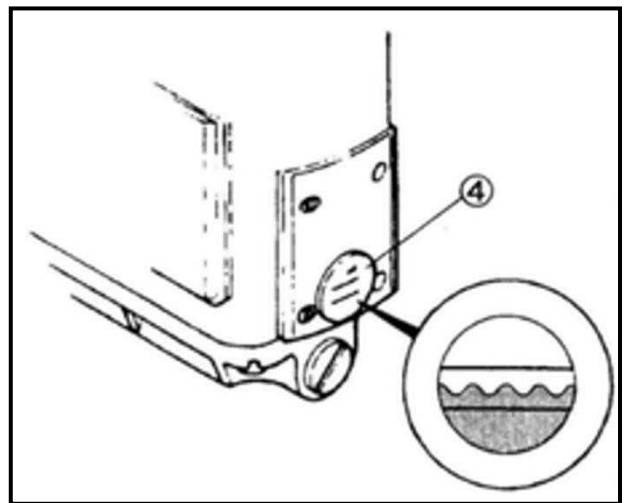

Fig.14
- (2) 从油孔①加油直到油量达到③最上方的红线，从油孔②加油直到油量到④最上面的红线。(Fig.14)
- (3) 使用机器前检查油水平。如果没有达到水平线要加油。
- (4) 当机器在使用中时，从油镜⑤和⑥检查油有无供应。
- (1) Remove the plug screws ① and ② indicated "OIL" and supply oil.
- (2) From the plug screw ①, supply oil until the oil level indicator top reaches the upper line in the oil sight gauge ③. From the plug screw ②, supply oil to the upper line in the oil sight gauge ④. (Fig.14)
- (3) Check the oil level between the lines in the oil sight gauge ③ and ④ before running a machine. If it is under the lines, supply oil.
- (4) Check the oil splashes from the nozzle inside the oil sight top windows ⑤ and ⑥ when starting to run a machine.